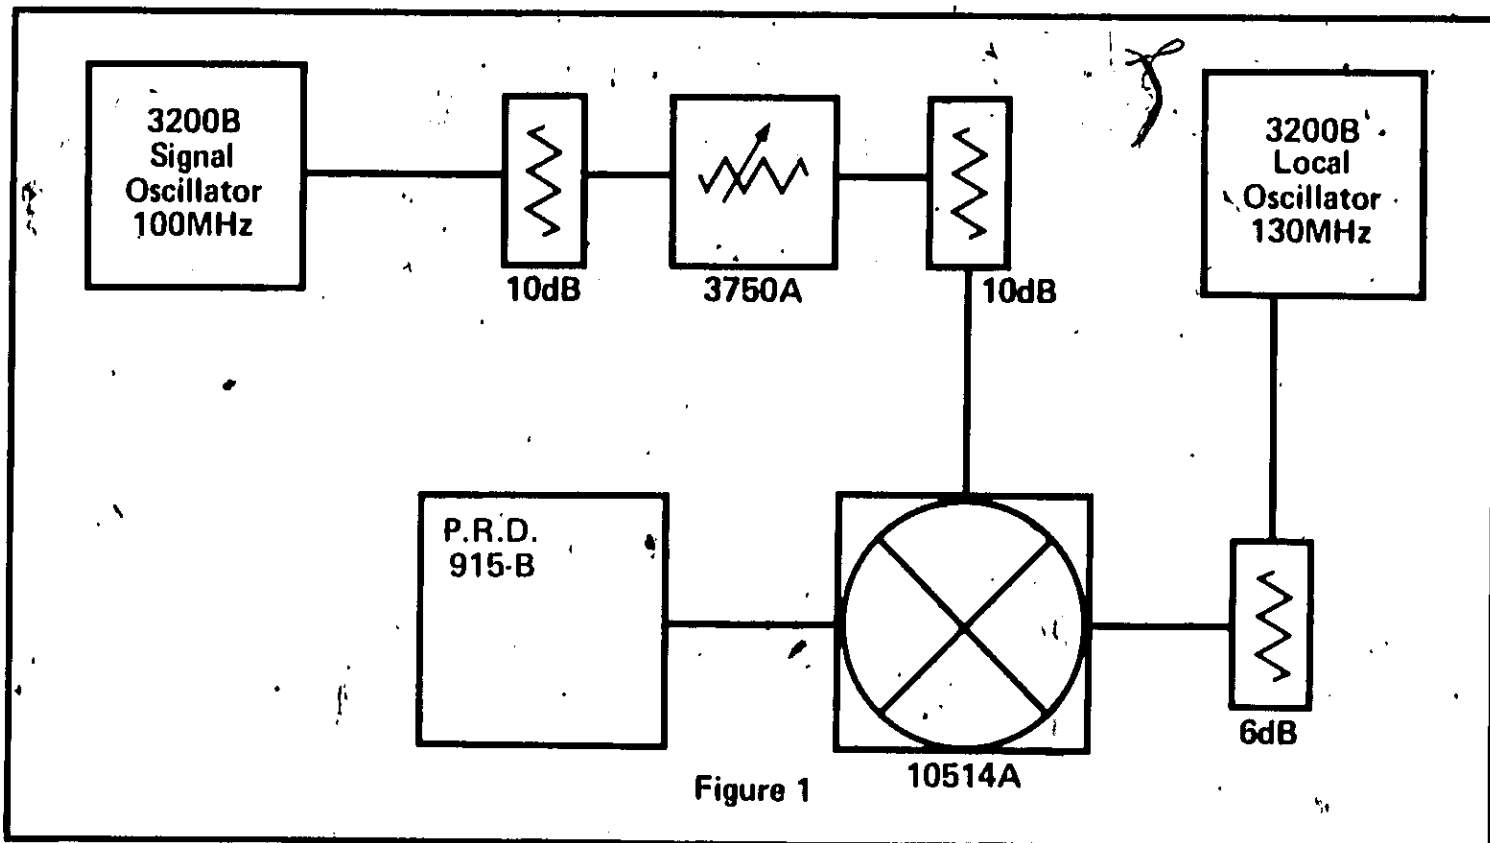

Figure 1
- 1 Connect equipment as shown in Figure 1.